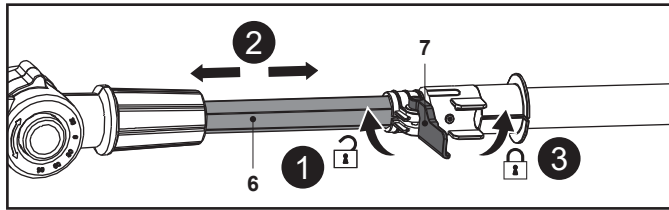

Fig. 10
- Loosen the locking lever (7) (Fig. 10, step 1).
- Adjust to the required length by pulling out or pushing in the pole extension (6) (Fig. 10, step 2).
3. Secure the position of pole extension (6) by fastening the locking lever (7) back to its original position (Fig. 10, step 3).